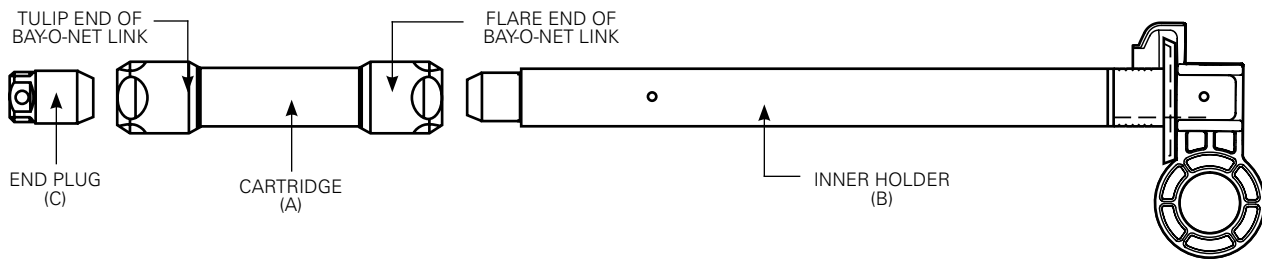

Figure 8. Assembly of cartridge with fuse onto inner holder.
- Be sure contact flare end is secured in place between fuse cartridge (a) and the inner holder (b) and tighten cartridge against the inner holder applying 50 to 70-in-lbs of torque. (Refer to Figure 8.)